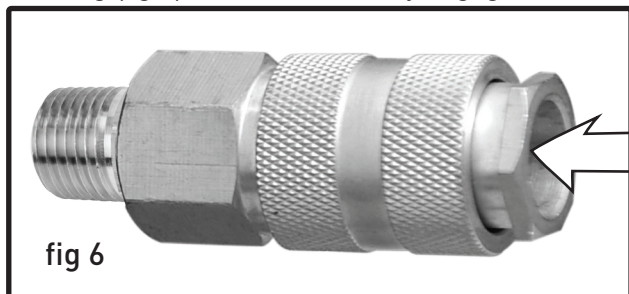

fig 6
Your air compressor is supplied with a 1/4" push-connect air coupler (fig 6). With a factory installed
1. Simply push the "connector" or "plug" into the fitting (fig 6) and it automatically engages.